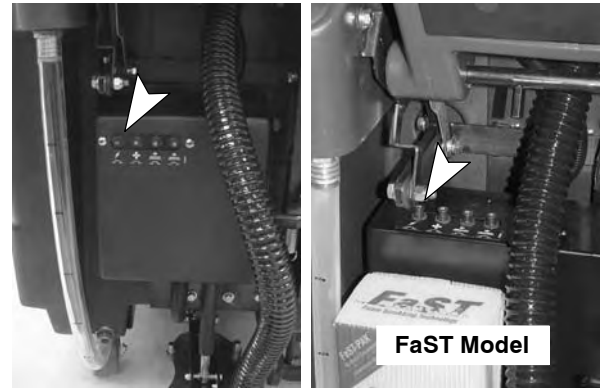

FIG. 1
1. Turn all switches to the off position and pull out the main (10 amp) circuit breaker button as shown (Figure 1).